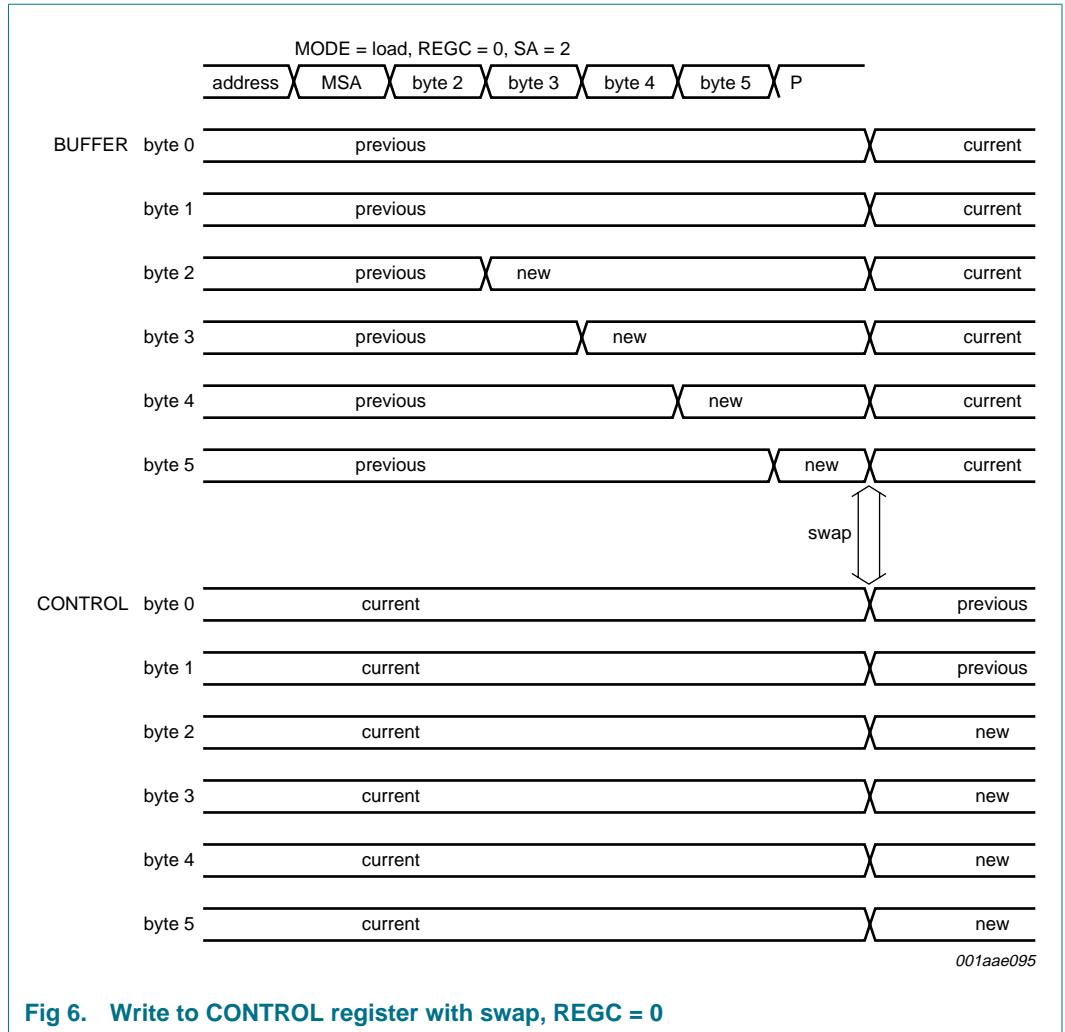
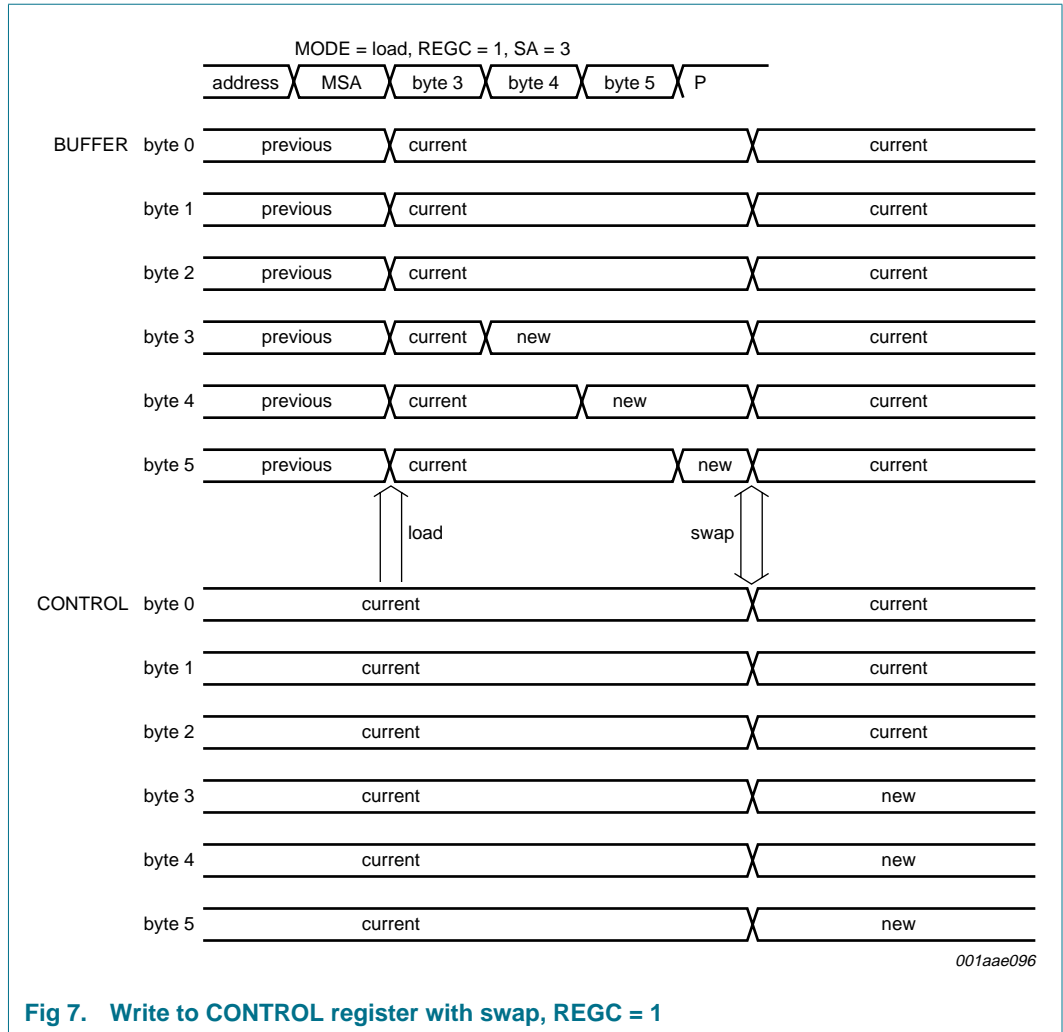

Fig 6. Write to CONTROL register with swap, REGC = 0
Fig 7. Write to CONTROL register with swap, REGC = 1
Controlled by a state machine, the BUFFER data will be loaded into the CONTROL register for new settings. However, at the same time the CONTROL data is loaded into the BUFFER register. This register swap action allows a fast return to the previous setting because the previous data remains available in the BUFFER register (see Figure 6 and Figure 7).
- With REGC = 0, any BUFFER data that is not newly written via I²C-bus remains unchanged. In general, the BUFFER register will contain the previous tuner setting, so this becomes default for the new setting. When only the MSA byte is transmitted defining a tuning MODE with REGC = 0, the tuner will return to its previous settings (see Figure 6).
- With REGC = 1, the BUFFER register is loaded with data from the CONTROL register first. This way, not written BUFFER data equals the CONTROL data. Since the CONTROL register contains the current tuner setting with REGC = 1, the current tuner setting is default for the new setting. When a tuning MODE action is defined with REGC = 1, the tuner will keep its current settings (CONTROL = current) for all data that is not newly written during the transmission (see Figure 7).
| 4 | REGC | register mode 0 = buffer mode or back mode: previous tuning data is default for new I ² C-bus write (data of the BUFFER register is not changed before I ² C-bus write); see Figure 6 1 = control mode or current mode: current tuning data is default for new I ² C-bus write (the BUFFER register is loaded with CONTROL register data before I ² C-bus write); see Figure 7 |
| 1 | 1 | 0 | load | write CONTROL register via BUFFER; no state machine action; immediate swap; see Figure 6 and Figure 7 |